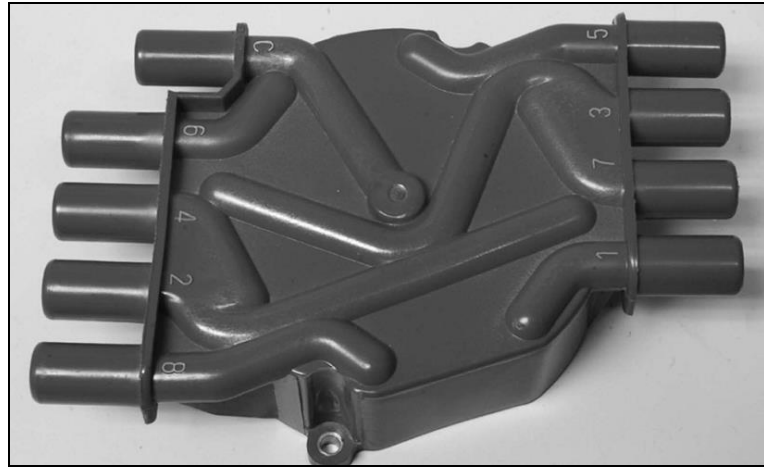

Figure 2 – Distributor Cap
1. Mark the spark plug wires and their location then remove the cap. Note that the Vortech Distributor routes the wires to each side and from front to back (Figure 2).